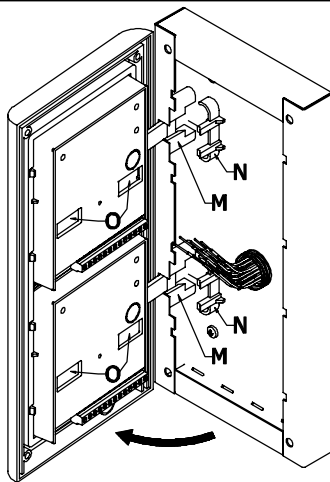
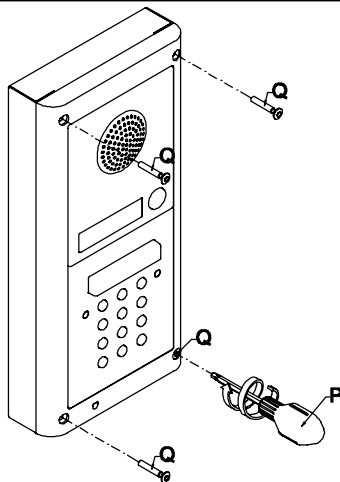

Fig.7
Fig.8
- As shown in figure 7, open the module support frame **H** as suggested by the pointer, hook the hinge locks **N** to the hinges **M**, make the required connections using the screwdriver (Ref.**P** figure 8) provided (blade flat side) and make the required adjustment by adjusting the settings (through openings **O**) and adjust trimmers;
- When the system has been tested and is working correctly, move back the module support frames carefully, fix them to the surface box using the screwdriver provided **P** (blade torx side) and the pin machine torx screws **Q** as shown on figure 8. **Note: do not overtighten the screws more than is necessary.**
- Come mostrato in figura 7, ruotare il supporto moduli **H** come suggerito dalla freccia, agganciare i fermi **N** delle cerniere agli alloggiamenti **M**, collegare i fili utilizzando il cacciavite (lato piatto) fornito a corredo (Rif.**P** fig.8) ed eseguire le opportune regolazioni dei moduli agendo attraverso i fori dei trimmer o le fessure **O**;